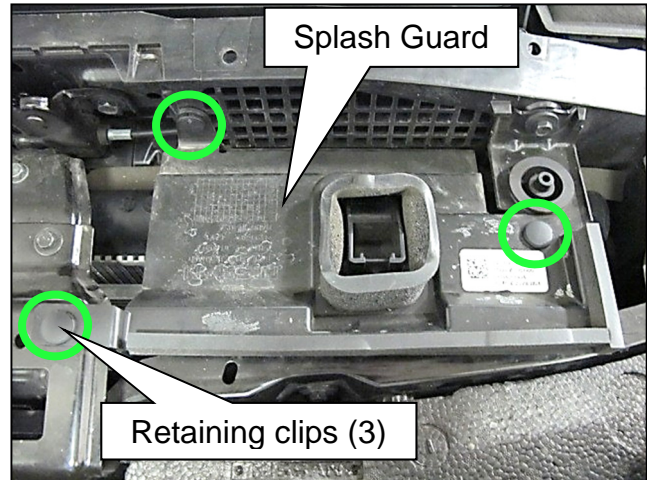

Figure 29
20. Install the splash guard (Figure 29).
- Install the three (3) retaining clips and the splash guard.